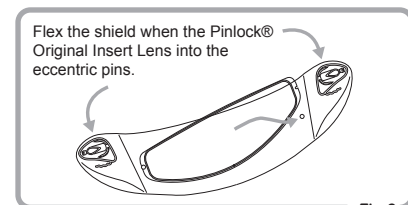

Fig.3
- ② Flex the shield carefully until the shield becomes flat. Then, click the other side of the Pinlock® Original Insert Lens into the eccentric pins and then allow the shield to return carefully to its original curved shape. (Fig. 3 and 4) (Follow 3)